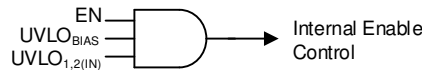

Figure 8-3. Simplified Turn-On Control
Controlling when a single power supply turns on can be difficult in a power distribution network (PDN) because of the high power levels inherent in a PDN, and the variations between the supplies. Figure 8-3 and Table 8-2 show how the LDO turn-on and turn-off times are set by the enable circuit (EN) and undervoltage lockout circuits ($UVLO_{1,2(IN)}$ and $UVLO_{BIAS}$).